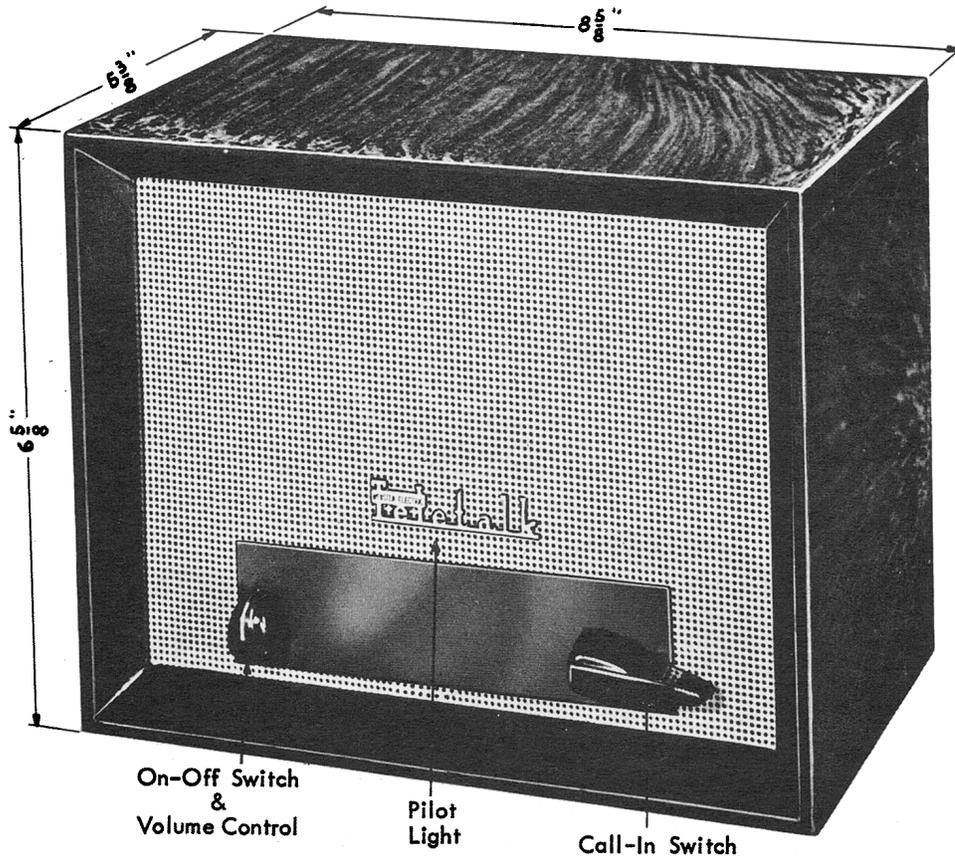

Fig. 6 - RM-B Speaker Station
2.21 Speaker station RM-B shown in Figure 6 has a walnut-grain plastic cabinet. It houses a speaker-microphone, power supply, amplifier, call-in switch, the combined volume control and power on-off switch, and an applique unit. A brown rubber cord approximately 7-feet long is provided for connection to the power supply. The front panel has a metal grille behind which is mounted the speaker-microphone and a pilot light. The call-in switch and a combined volume control and on-off switch are located on the grille. The control for adjusting the output to the telephone line is on the rear of the amplifier chassis.